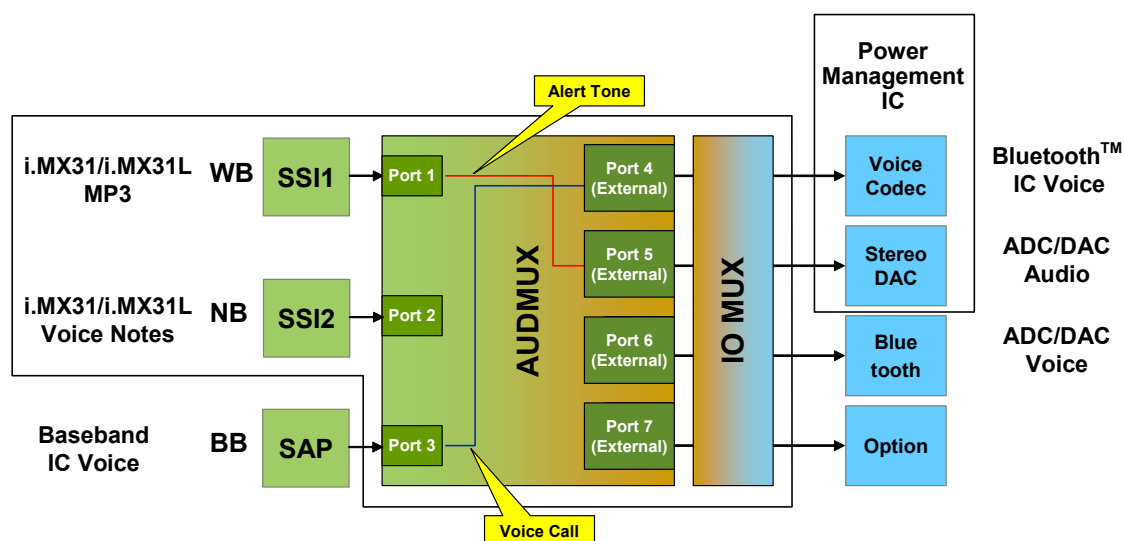

Figure 8. Typical AUDMUX Application
In a typical scenario, the AUDMUX and two SSI/I2S modules provide interfaces to the Serial Audio Port of the cellular baseband (BB) processor, narrowband (NB), and wideband (WB) audio ports of the external audio AD/DA and the audio port of the Bluetooth wireless technology on-board peripheral. See Figure 8.